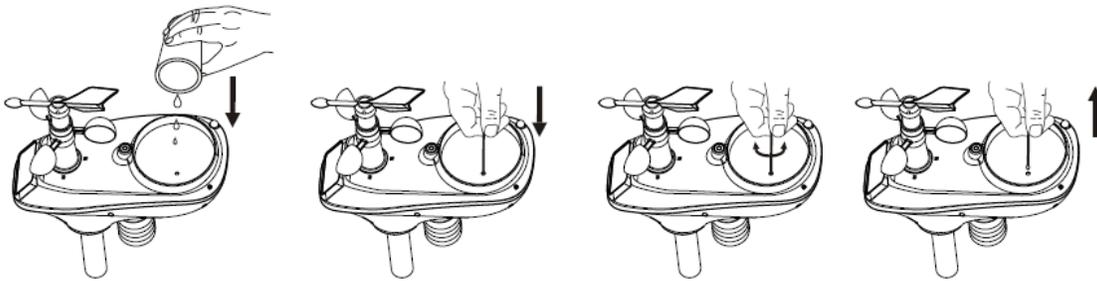

Figure 33
1. Clean the rain gauge once every 3 months as follows. Reference Figure 33.